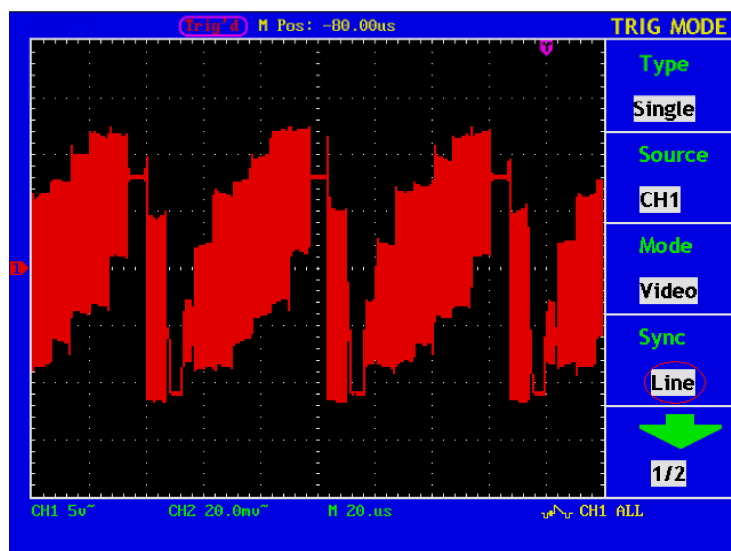

Fig. 41 Video field trigger Oscillogram
5. Press F4 to choose synchronization as "Line" (refer to Fig.41)